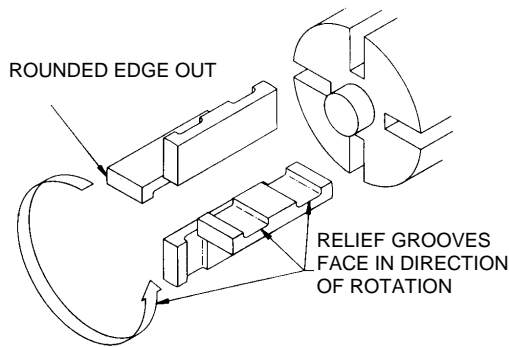
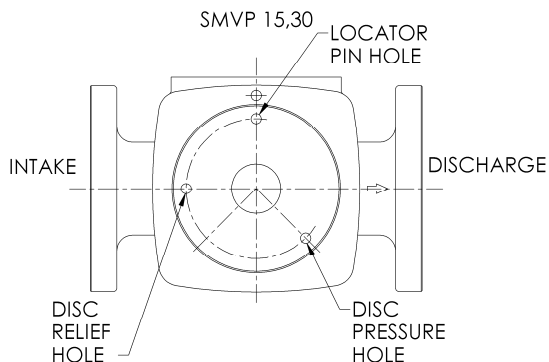

Figure 4 - Vane Installation
Figure 5 – SMVP Models
3. Turn the shaft by hand until a vane (14) comes to the top (12 o'clock) position of the rotor. Remove the vane.
4. Install a new vane, ensuring that the rounded edge is UP (facing outward) and that the relief grooves are facing TOWARDS the direction of rotation. See Figure 4.
2. Install the disc (71) on the outboard end of the cylinder with the disc holes positioned as shown in Figure 5. Use the dowel locator pin hole to locate the disc.
3. Install a new head seal ring / O-ring (72) in the groove provided between the disc and the cylinder.
4. Inspect both sleeve bearings (24) for damage or wear. If damaged, bearings MUST be replaced. If the inside diameter of the bearing measures 1.074" (27.28mm) or greater at any point around the entire circumference, bearings MUST be replaced. To replace bearings:
5. Install the outboard head and bearing assembly (23) on the pump cylinder with the V-notch down, towards the bottom of the cylinder. Use the head dowel pins for proper alignment.
7. Install a new bearing cover seal ring (26) in the groove in the outboard head. Place the bearing cover (27) on the head. Lubricate the bearing cover capscrews (28) with a quality grade of anti-seize compound, and install, torquing to 11 lbs-ft(15Nm)
9. Remove the four vanes (14) and two push rods (77) from the rotor assembly. Inspect for wear and damage, and replace as follows:
- a. The push rods MUST be installed before installing the rotor and shaft (13) into the pump cylinder / casing. To do so, hold the rotor and shaft vertical, with the non-driven (shorter end) down. Slide the push rods into the push rod holes of the rotor, then insert the rotor and shaft into the open end of the pump cylinder / casing.
- b. Insert new vanes into the rotor slots with the rounded edges outward, and the vane relief grooves facing TOWARDS the direction of rotation. Refer back to Figure 4 If necessary, move the push rods with a small screwdriver to install the vanes.
10. Install the inboard disc (71), head seal ring / O-ring (72), and sleeve (24) bearing as instructed in steps 2 – 4.
11. Install the inboard head and bearing assembly (20) on the pump cylinder / casing with the V-notch down, towards the bottom of the cylinder / casing. Use the head dowel pins for proper alignment.
12. Lubricate the four inboard head capscrews (21) with a quality grade of anti-seize compound, and install, torquing to 15 lbs ft (20.3Nm).